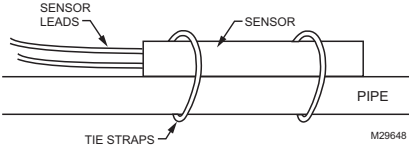

Fig. 1. Securing bulb to the pipe.
2. Secure the bulb to the pipe with the tie straps. See Fig. 1.